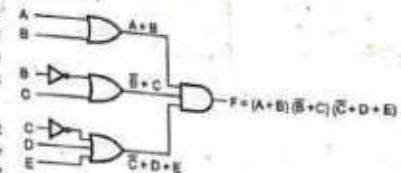

Fig. 4.7.2 Implementation of POS Boolean expression
- We can implement these sum terms by using two 2-input OR gates and one 3-input OR gate, as shown in the Fig. 4.7.2.